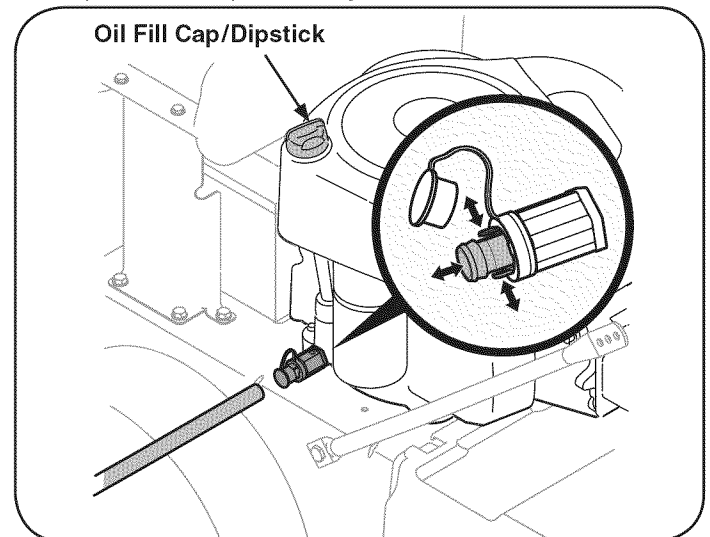

Figure 13
3. Pop off the protective cap on the end of the oil drain valve to expose the drain port. See Figure 13.
4. Remove the oil fill cap/dipstick from the oil fill tube, Figure 13.